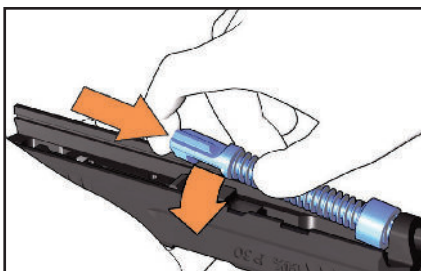

Figure 25 — Removing the recoil spring
8. Turn the slide upside down and carefully push the recoil spring forward and out to either the left or right side, separating the recoil spring from the barrel and slide (see Figure 25).